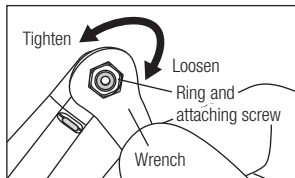

Fig. 10
- 1) Loosen the ring and take off the ring and attaching screw.(Fig.10)